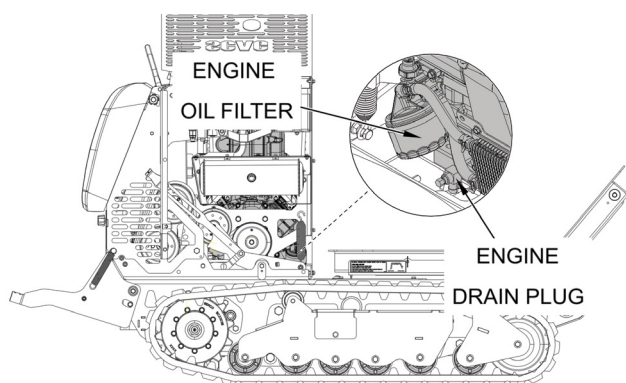

Figure 6-10. Engine Oil Filter & Drain Plug
6. Place a suitable container under the engine oil drain plug. Remove the drain plug and allow for all of the used oil to drain into the container. See Figure 6-10.